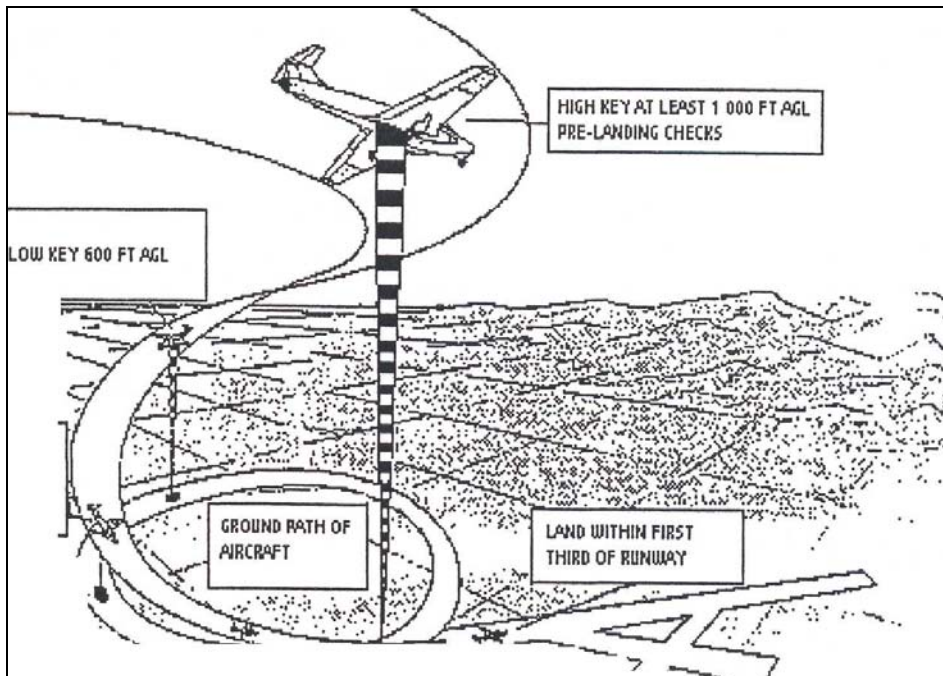

FIGURE7-1 The Forced Landing Pattern
4. The forced landing pattern and procedure is outlined in Figure 7-1.
1. The aircraft will lose approximately 800 feet in a 360-degree rate-one turn at the minimum glide speed. The ideal high key altitude is 1000 feet AGL. The extra 200 feet provides an increased measure of safety and permits the pilot to use flaps and roll the wings level on short final. The pattern is shown in Figure 7-1.